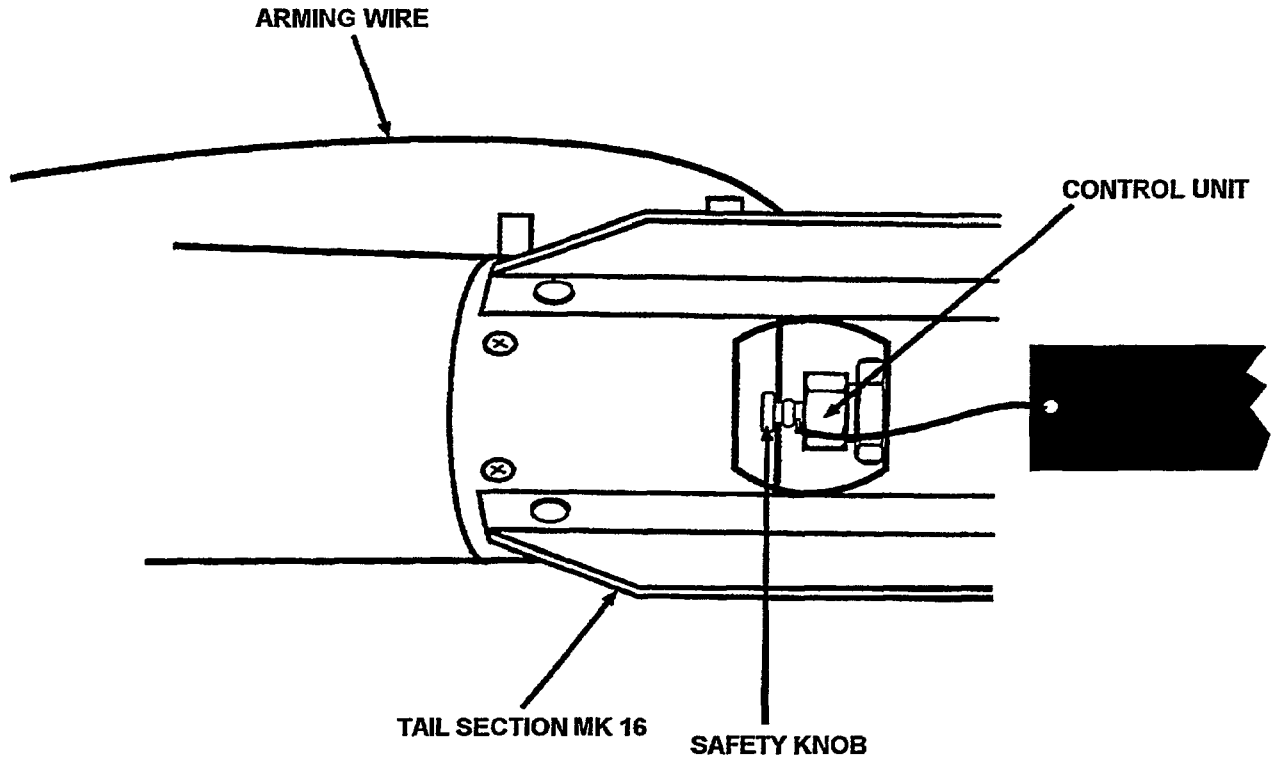

Figure 4-16E. Arming Wire Inserted Through Control Unit and Safety Knob Installed on Control Unit
- h. While the arming wire is through the hole of the control unit, remove the safety pin from the control unit. While holding the arming wire with slack removed, loosen the safety knob by turning it counterclockwise 2 turns, thereby locking the arming wire in this position. Do not remove the safety knob from the control unit (Figure 4-16E).